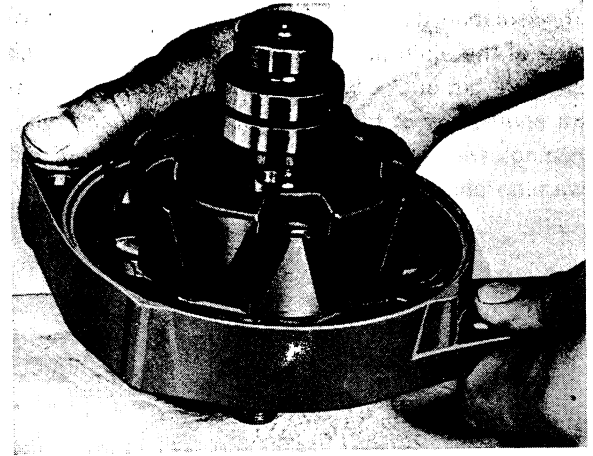

Fig. 3-9. Removing drive end shield
7. Release the three screws holding the support plate of the drive end bearing. Release the bearing by knocking the end of the shaft against a piece of wood, see Fig. 3-9.